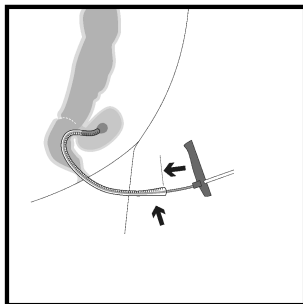

Fig. 3
14. Guide the pusher via the drainage tube and, using the pusher, push the sponge forward to the end of the overtube (or rectoscope or proctoscope). The tip of the sponge is now positioned at the deepest point in the leak cavity (Fig. 3). Meanwhile, continue to hold the overtube (or rectoscope or proctoscope) firmly in place.